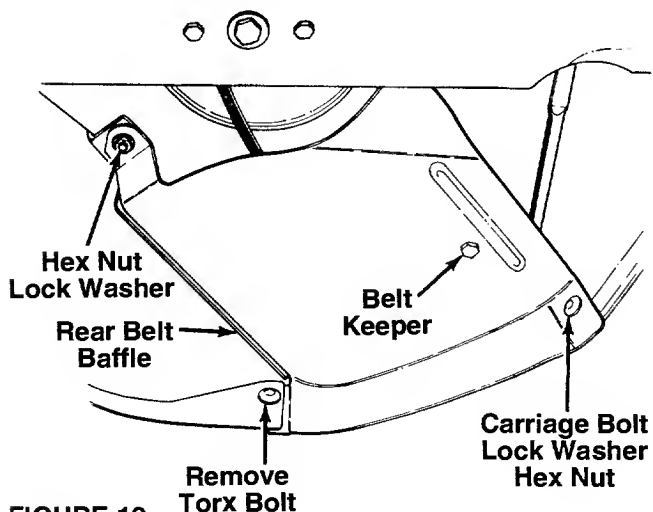

FIGURE 12.
4. Remove the rear belt baffle by removing the lock washer and hex nut shown in figure 12. Then remove one Torx bolt, using a #27 Torx driver. A 9/64" Allen wrench may also be used. Then remove one carriage bolt, lock washer and nut as shown.
**NOTE:** When reassembling the rear belt baffle, make certain the belt keeper is outside of the belt, and the edge of the rear belt baffle is between the rear chute baffle and the rear panel as shown in figure 12. Make certain to tighten all nuts and bolts securely. If plastic was placed under the gas cap, be certain to remove it.